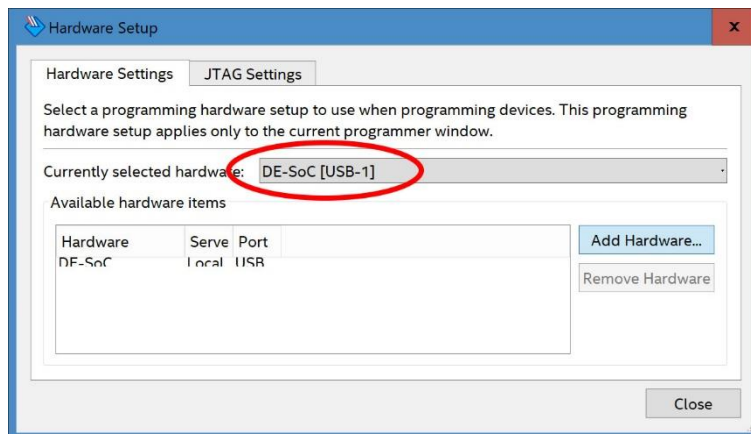

Figure 15: Hardware Setup dialog box in case the "Start" button in the Programmer dialog box was greyed out.
- b) If the “Start” button is greyed out, you need to first run click the “Hardware Setup...” button. This will bring up the “Hardware Setup” dialog box. Set “Currently selected hardware” to “DE-SoC”, and close the dialog box (*Figure 15*).